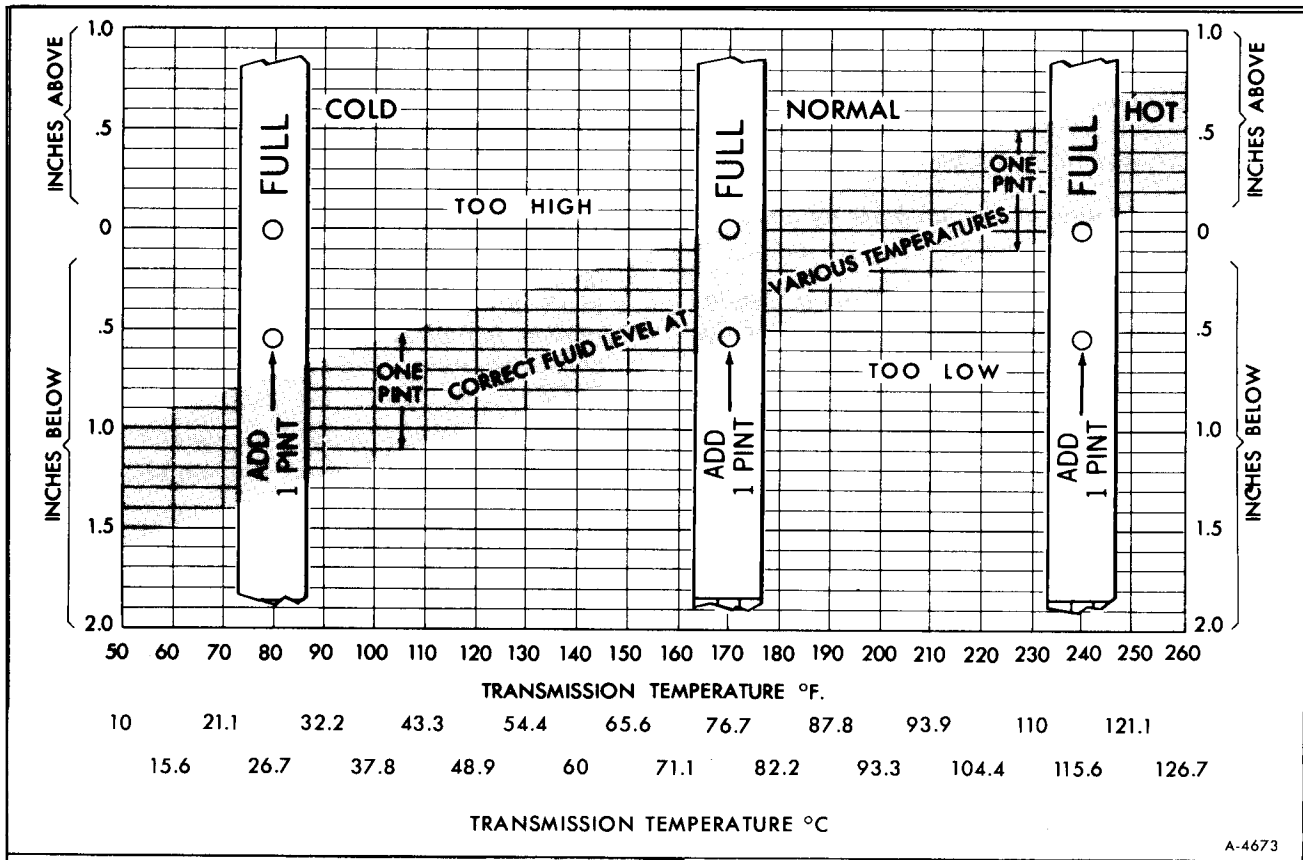

Figure 15—Transmission Oil Level
one pint difference. Correct fluid level is determined at normal engine coolant operating temperature, 190-200°F. (88-93°C.). Automatic transmissions are frequently overfilled because fluid level is checked when the fluid is cold and dipstick indicates fluid should be added. However, the low reading is normal as proper fluid level at low operating temperature will be below the "ADD" mark on the dipstick, as shown in Figure 15, and proper fluid level at higher operating temperatures will rise above the "FULL" mark. Fluid level rises as the fluid temperature increases. A fluid level change of over 3/4" will occur as temperature rises 60°F. (15.6°C.) to 190°F. (88°C.).
10. Reduce engine speed to slow idle and check fluid level. Add fluid to bring to proper level, Figure 15.
4. Check fluid level and add additional fluid to bring to proper level, Figure 15.